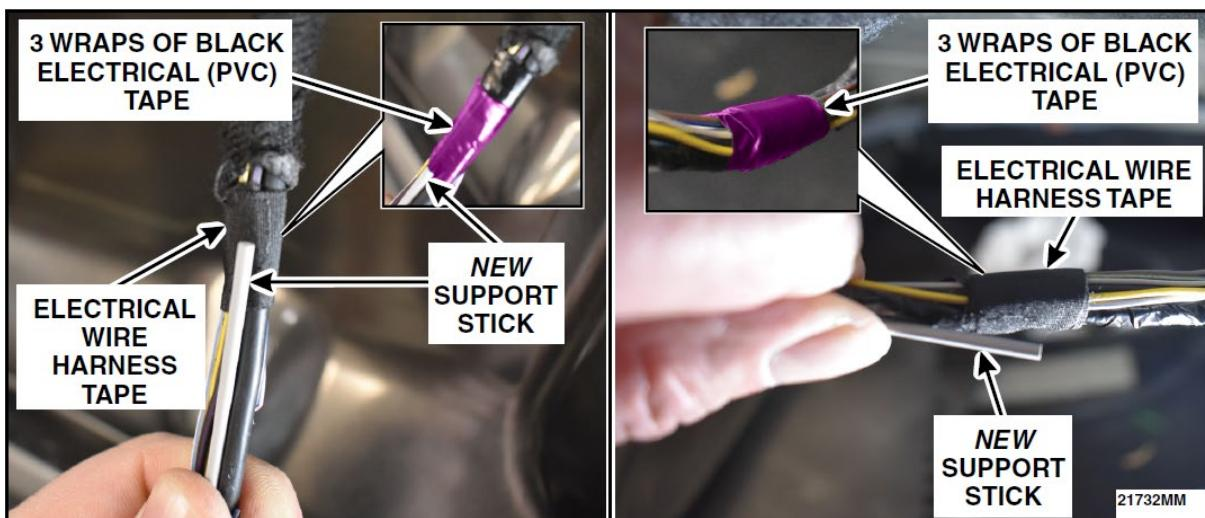

FIGURE 46
65. Pass the new support stick through the mesh sleeve. Place the ends of the support stick at the halfway point on the Coroplast® 837 or equivalent electrical wire harness tape. Apply 3 wraps of KTI73510 or equivalent black electrical (PVC) tape to secure the support stick on each end of the wire harness. See Figure 46.